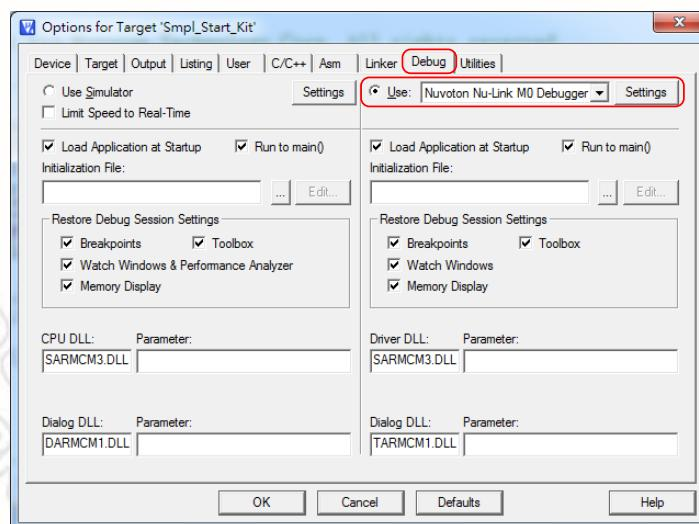

Figure 4-10 Keil RVMDK Debugger Selection
- Step 4: Invoke **Project → Options for Target → Debug**, and make sure the **Use: 「Nuvoton Nu-Link M0 Debugger」** option is checked, as shown in Figure 4-10.